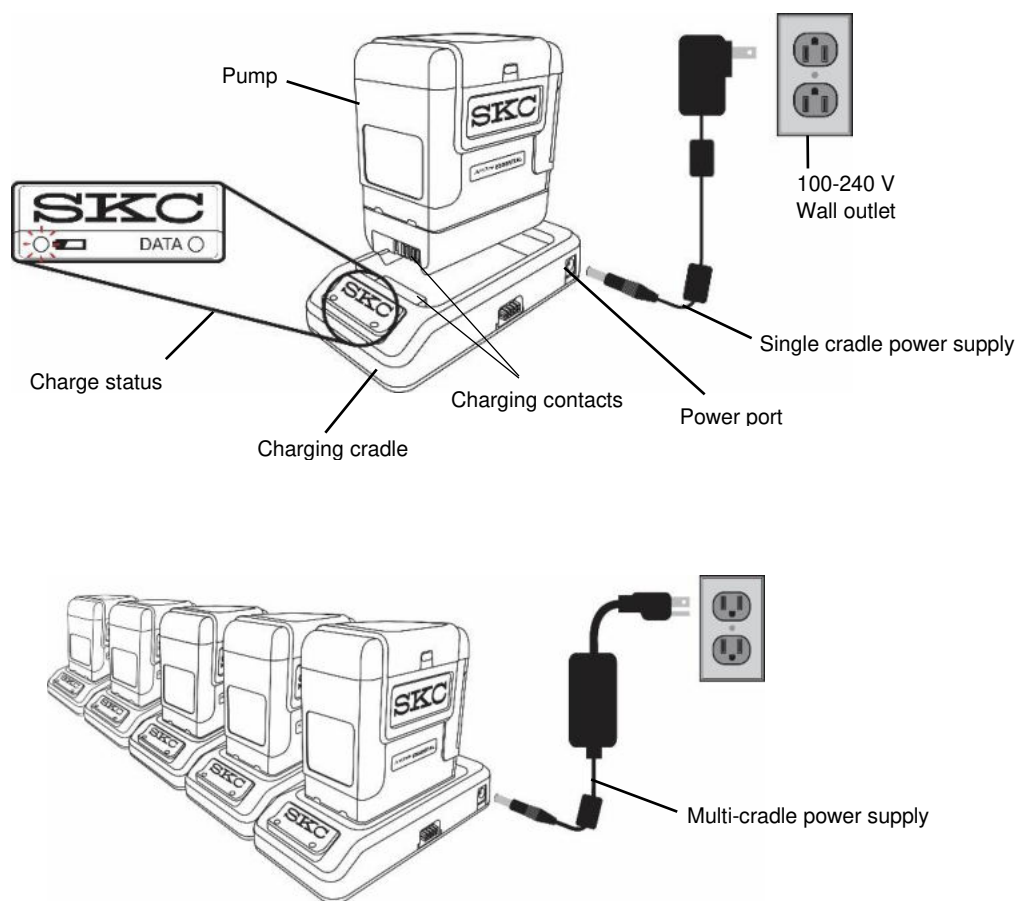

Figure 2. Charging Train, Single and Multiple Cradles
1. Set up the charging train (Figure 2) and completely charge the battery pack(s) before operating the pump.